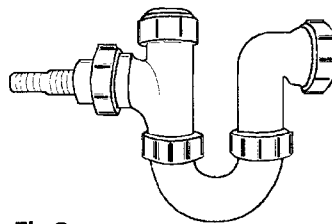

Fig 3
3. If fitting an under sink waste disposal unit (Fig 3), cut out the membrane, bung or blanking plug.